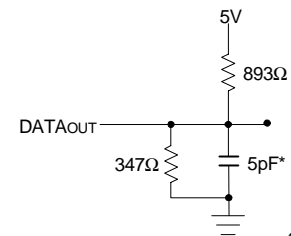

Figure 2. Output Test Load
1. Transition is measured 0mV from Low or High-impedance voltage with Output Test Load (Figure 2).
1. Transition is measured 0mV from Low or High-impedance voltage with the Output Test Load (Figure 2).
7. This parameter is guaranteed by device characterization, but is not production tested. Transition is measured 0mV from steady state with Output Test Load (Figure 2).